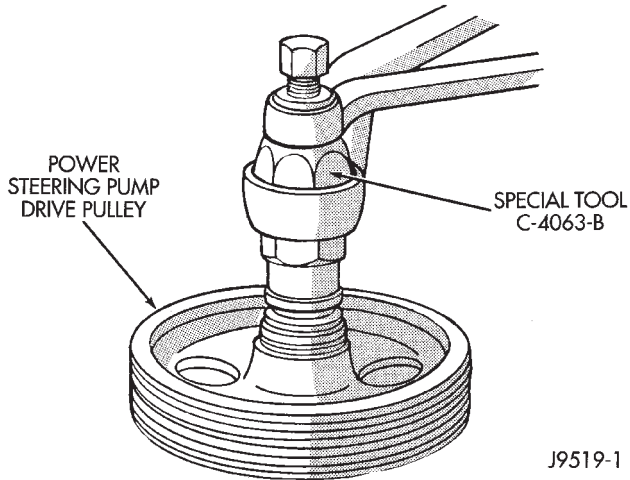

Fig. 5 Pulley Installation
- (1) Replace pulley if bent, cracked, or loose.
- (2) Install pulley on pump with Installer C-4063-B (Fig. 5) flush with the end of the shaft. Ensure the tool and pulley remain aligned with the pump shaft.